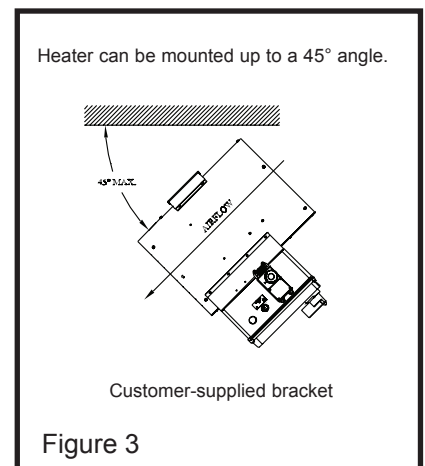

Figure 3
5. For maximum tilt angles, see figure 3. For maximum mounting height, see general specifications table on page 9.